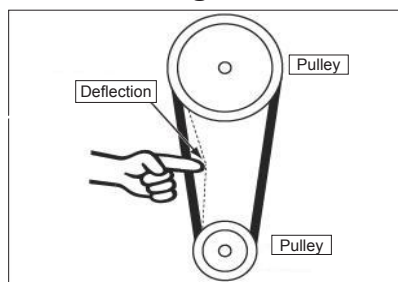

Fig. 10
5. Position the belt housing assembly so there is about 1/4" V-belt deflection when moderate pressure is applied to the V-belt between the pulleys (see Figure 10)—then fully tighten the cap screws to secure the belt housing assembly in place.